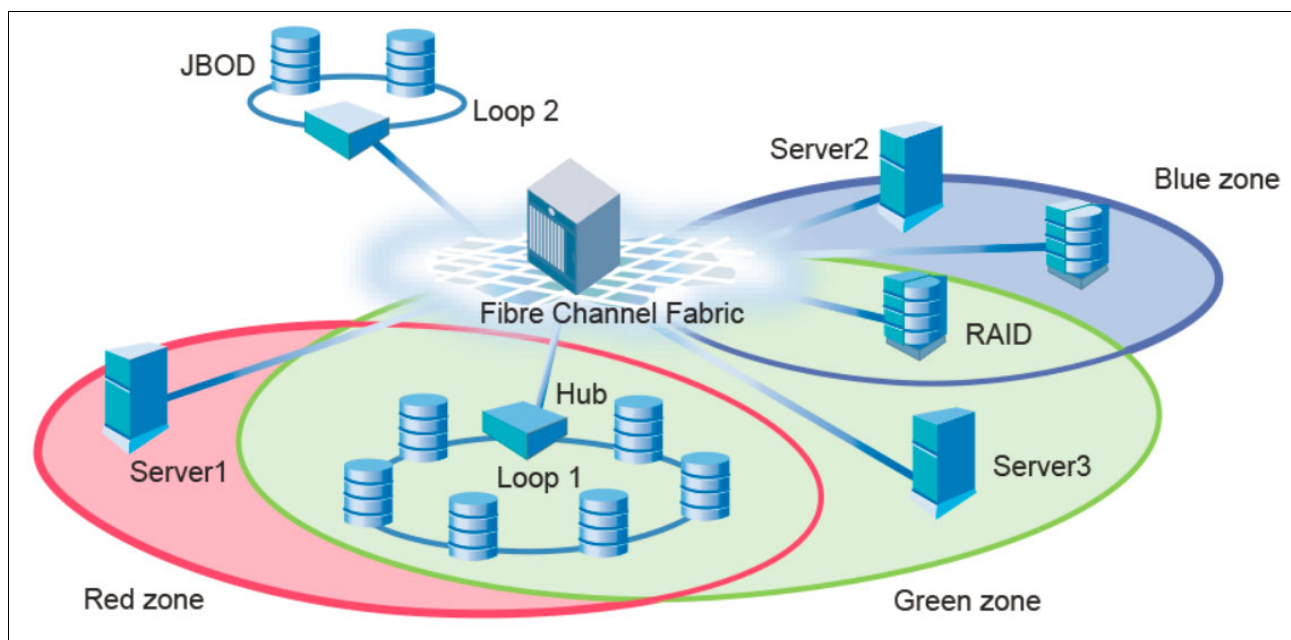

Figure 10-5 Preferred zoning practices
- ▶ Zone by single host bus adapter (HBA) where practical (see Figure 10-5) unless Peer zoning is in use (see 10.5.2, “Peer Zoning” on page 262). Each zone that is created has only one HBA (initiator) in the zone, and each target device is added to the zone. Typically, a zone is created for the HBA and the disk storage ports are added. In this manner, zone changes affect the smallest possible number of devices, minimizing the impact of an incorrect zone change.
Figure 10-5 shows examples of preferred zoning practices.